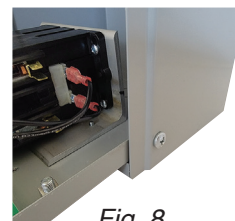

Fig. 8
15. Using the two larger screws included in the kit, attach the front panel to the enclosure as seen in **Fig. 8**, (do not overtighten screws).